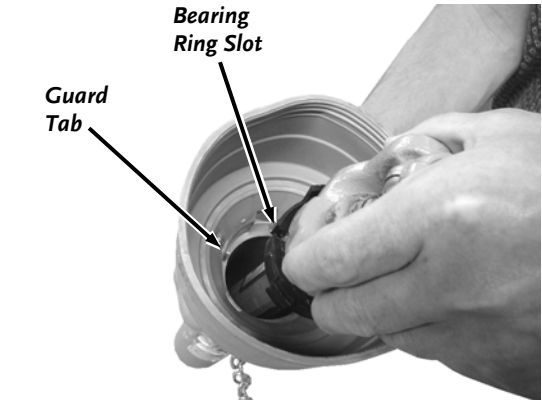

Figure 22
7. Insert the Shaft Halves into the Guards making sure that the Bearing Ring Slot lines up with the Tab on the inside of the Guards for proper installation (**Figure 22**).